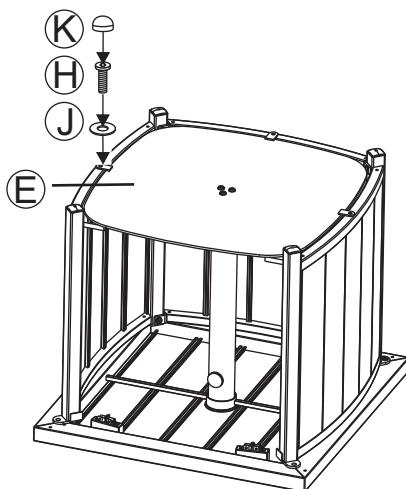

Figure 4
- 4 Attach the bottom panel to the back & side panels by using three 1/4"x20 mm bolts and washers as shown in **Figure 4**. Hand tighten only 2-3 turns.